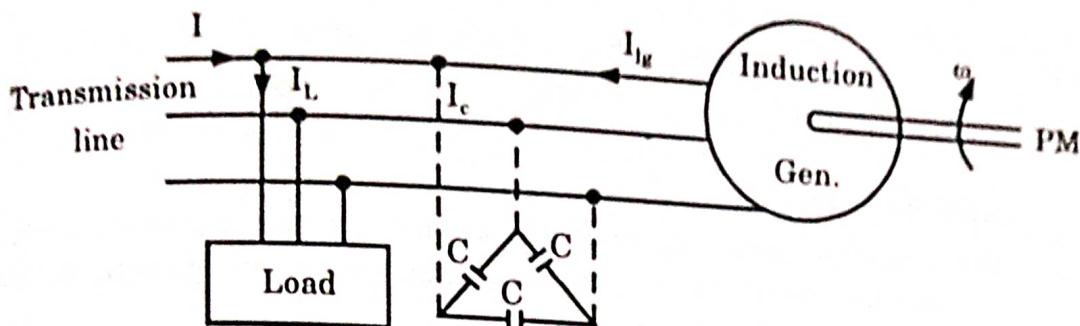

Fig. 3.24.1.
3. A transmission line connected to an induction generator feeding a local load is drawn in Fig. 3.24.1.